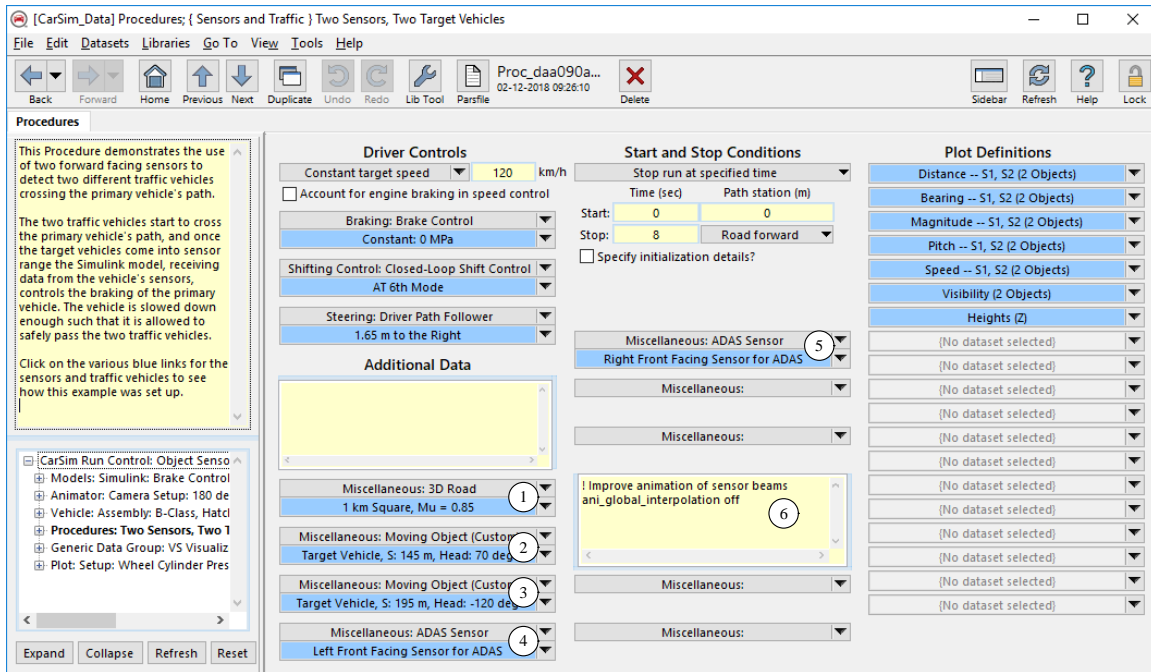
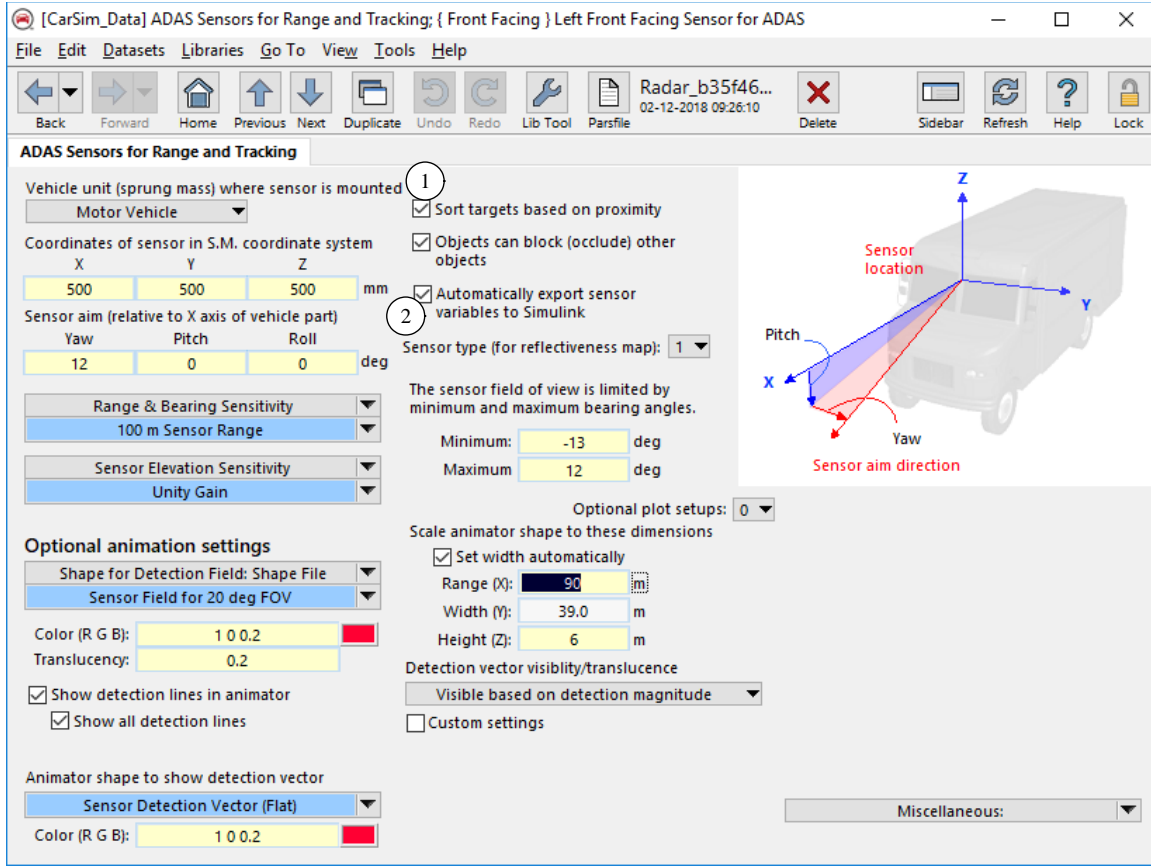

Figure 3. Procedures dataset for ADAS example.
Figure 4. Sensor dataset.
From the **Run Control** screen, go to the **Procedures** screen to see the details of the dataset named **Two Sensors, Two Target Vehicles** (Figure 3).
Click the blue link (4) (Figure 3) to see the dataset for the left-front sensor (Figure 4).
If the box is not checked, then the ID number of each detection corresponds to the ID number of an object. In this example, the first specified object is **Target Vehicle, S: 145 m, Head: 70 deg** (2) in Figure 3). Therefore, detection #1 always would correspond to this object, even if it were not the closest.
- (2) Checkbox to specify whether output variables from this sensor are automatically exported to Simulink.
where the first element is the sensor ID, and ten variables are included for up to ten target objects. The sensor ID is generated by the order in which sensors are linked. In this example, the first specified sensor (**Left Front Facing Sensor for ADAS**, (4) in Figure 3) is sensor 1 and the next sensor (**Right Front Facing Sensor for ADAS**) is sensor 2.
Output ports 2 to n+1 are dynamically created for sensors with the checkbox  (Figure 4) set as described in the previous section. Each sensor has an output that can include up to 101 variables. The VS Solvers support up to 20 sensors, and the S-Function can automatically generate separate ports for each.